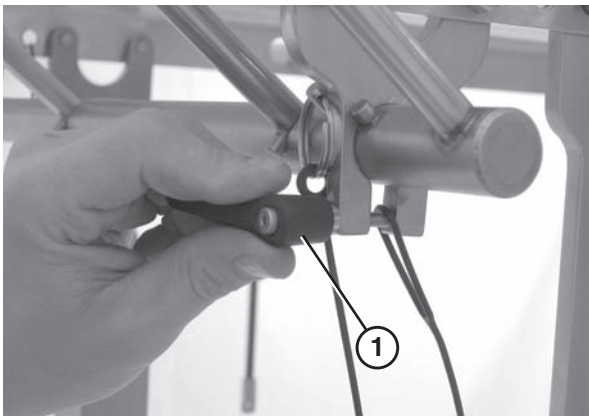

Figure 32
- Secure the scraper by tightening the handle (Figure 32, item 1).